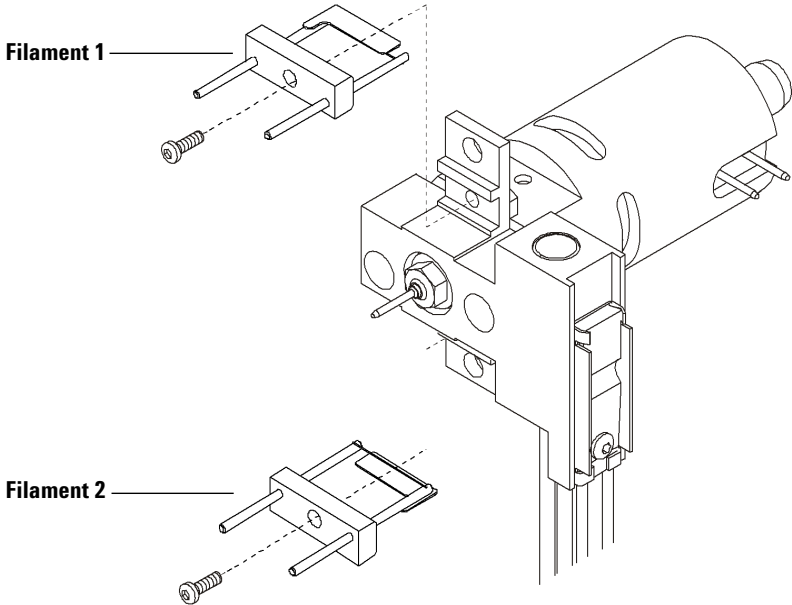

Figure 23 Replacing filaments
- 4 Remove the filament(s) to be replaced (Figure 23).
- 1 Install the new filament (Figure 23).